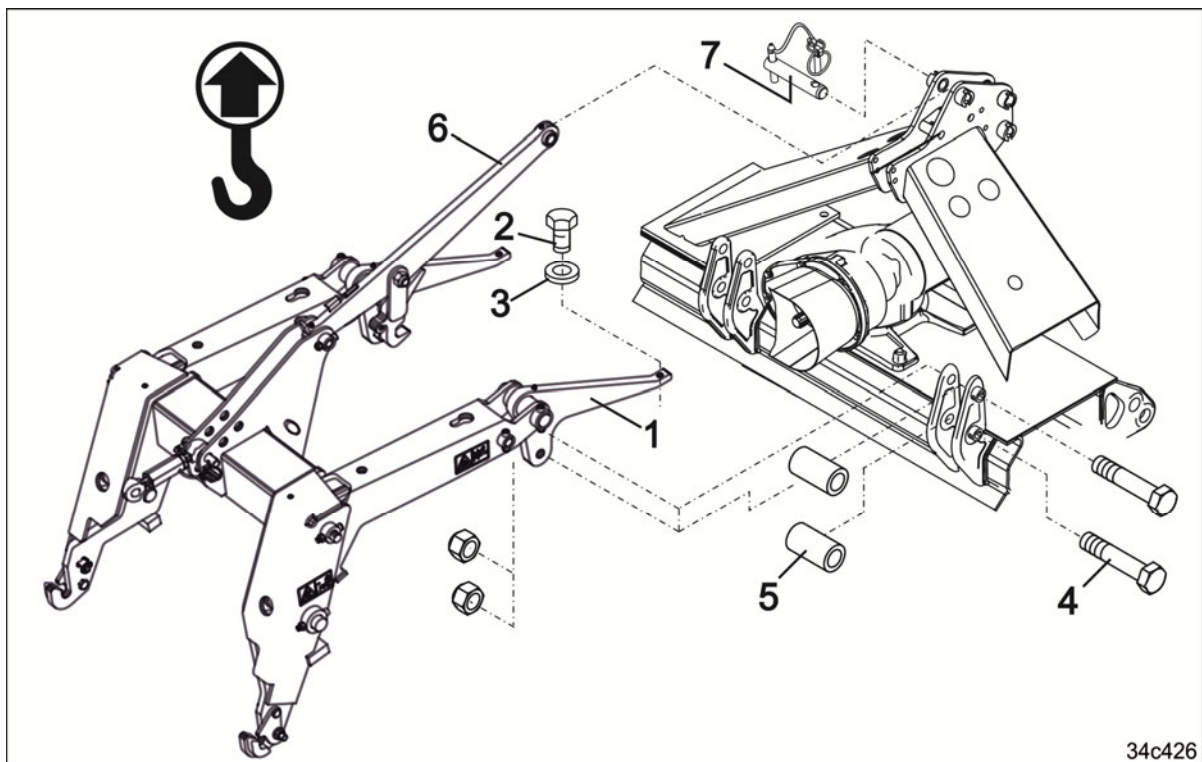

Fig. 82
5. Screw the bracket (Fig. 82/1) to the soil tillage implement using
- o two implement bolts (Fig. 82/2) with discs (Fig. 82/3)
- o 4 bolts (Fig. 82/4) with 4 spacer sleeves (Fig. 82/5).
6. Position the top link (Fig. 82/6) with a pin (Fig. 82/7) and secure with a linch pin.